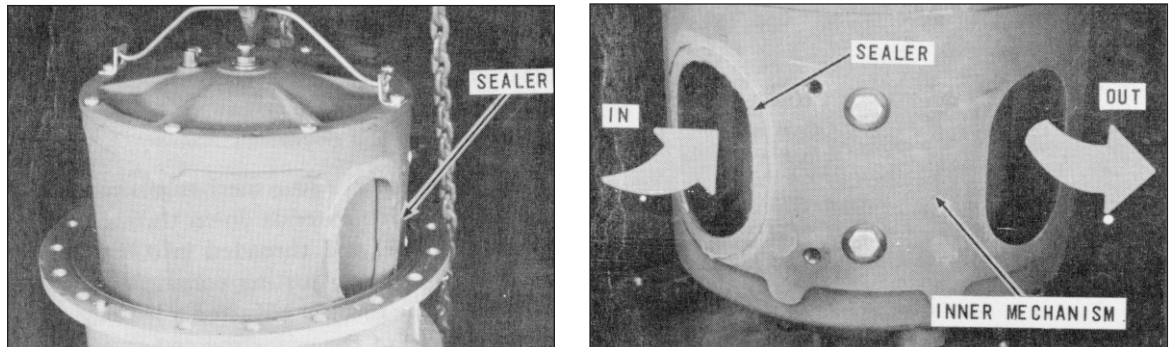

Figure 15 – Removing Inner Mechanism
2. Using the lifting lugs, remove the inner mechanism from the housing, Figure 15.